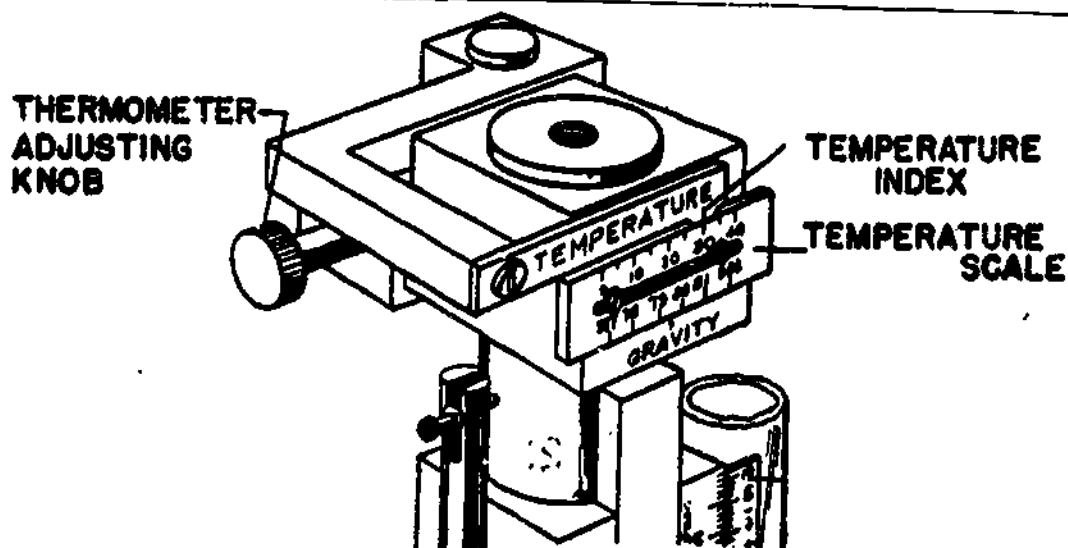

Figure 2.
3. Now that you know the temperature, set it in. Look at the top of the barometer. There you will find a scale, the upper portion being the temperature scale. (Refer to figure 2.) The index mark above the temperature scale can be adjusted to the correct temperature by rotating the knob on the upper left of the barometer. Turn it now and adjust the temperature scale to the temperature recorded in step 2 above.